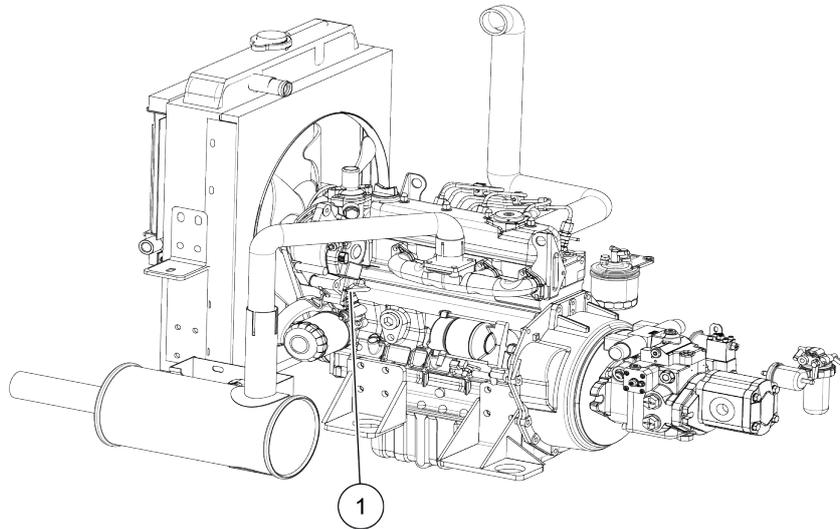

Figure 6-8 Oil dipstick position
Step 3: Pull out and clean the oil dipstick (1), insert it completely, and then take it out as shown in Figure 6-8;